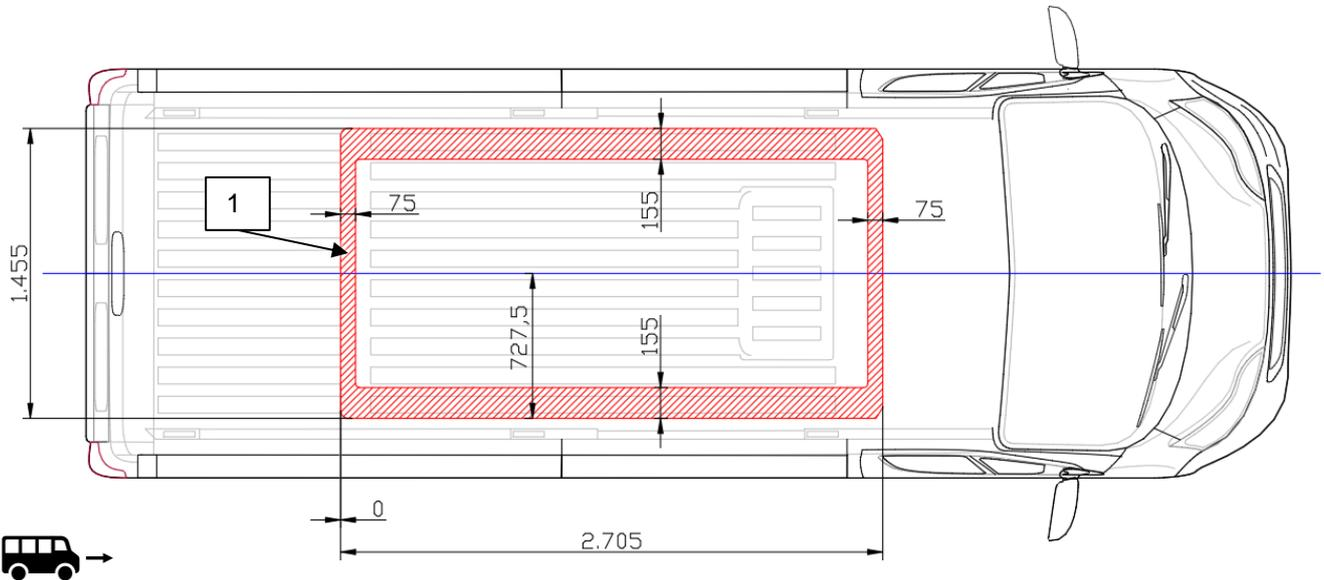

Abb. 3-9: Gluing area, exemplary Fiat Ducato [A0004005]
- Prepare the vehicle roof (see Abb. 3-9, 1) and the GFRP frame (see Abb. 3-10, 1) in the gluing area: